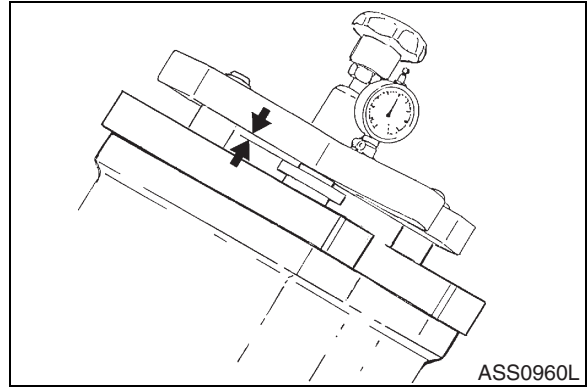

Figure 102
B. Size 140 - 200 (Figure 102).